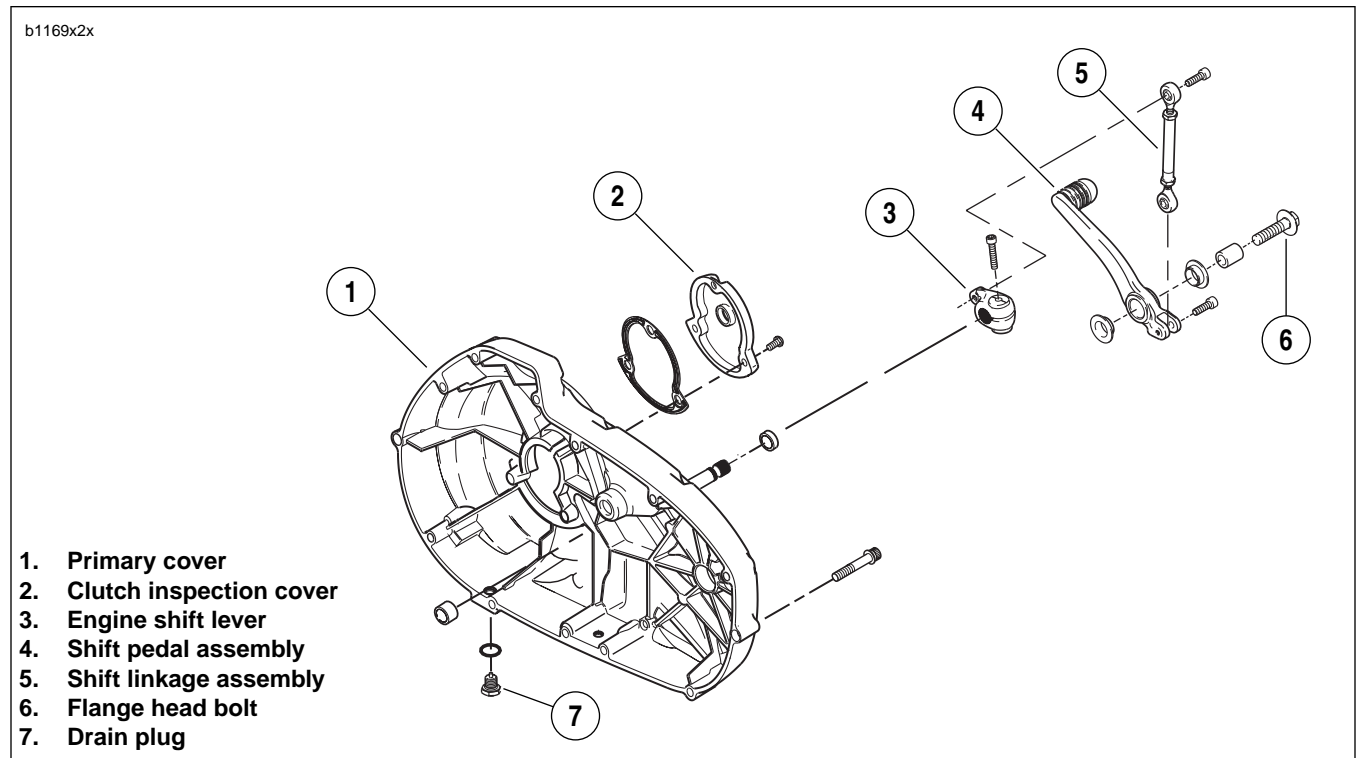

Figure 2-99. Primary Cover and Shifter Assembly
14. See Figure 2-99. Remove clutch inspection cover (2).
12. See Figure 2-99. Install clutch inspection cover (4) with three TORX screws with washers. Tighten screws in a crosswise pattern to 84-108 **in-lbs** (9.5-12.2 Nm).